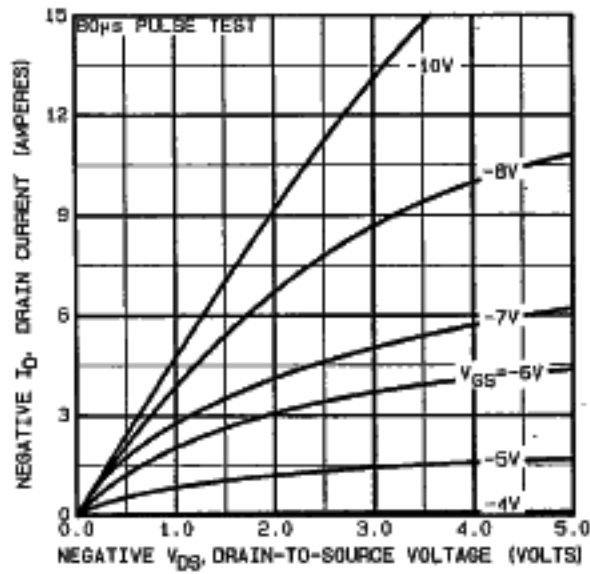

Fig. 3 - Typical Saturation Characteristics
- ① Repetitive Rating: Pulse width limited by maximum junction temperature (see Figure 3)
- ② @  $V_{SD} = -20\text{V}$ , Starting  $T_J = 25^\circ\text{C}$ ,  $L = 5.1\text{mH}$ ,  $R_G = 25\Omega$ , Peak  $I_S = -9.9\text{A}$
- ③  $I_{SD} \leq -9.9\text{A}$ ,  $dI/dt \leq -120\text{A}/\mu\text{s}$ ,  $V_{DD} \leq 40\text{V}$ ,  $T_J \leq 150^\circ\text{C}$ , Suggested  $R_G = 18\Omega$
- ④ Pulse width  $\leq 300\mu\text{s}$ ; Duty Cycle  $\leq 2\%$
- ⑤ KW =  $^\circ\text{C}/\text{W}$ , WK =  $\text{W}/^\circ\text{C}$
- ⑥ Mounting pad must cover heatlink surface area. See case style drawing on front page.